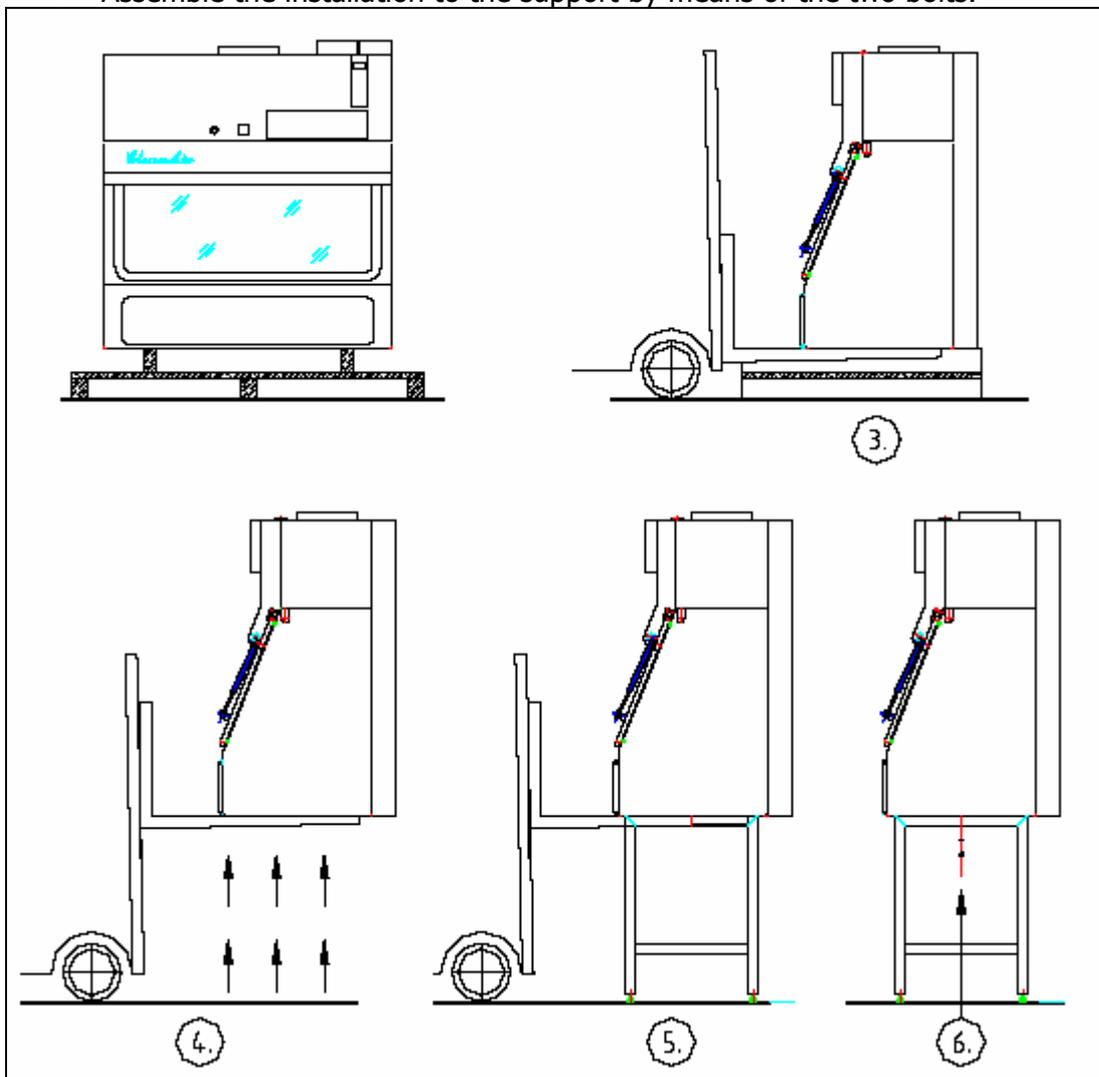

Figure 1 Installation of the cabinet
- Place the cabinet right on the forks of a forklift truck or lifting platform (See Figure 1 Installation of the cabinet);